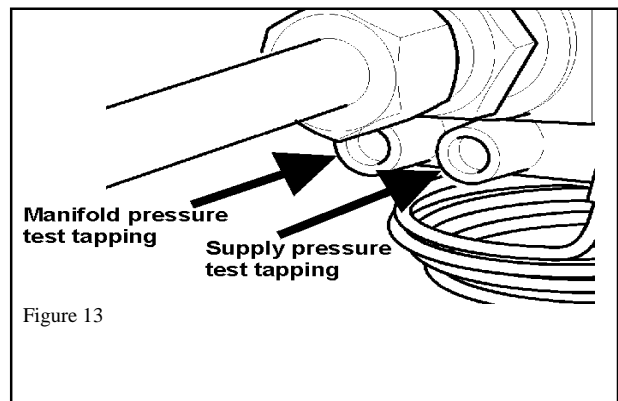

Figure 13
15. Turn on gas supply and check for leaks using soap solution. The minimum and maximum gas supply pressure are 5" and 10.5" w.c. and can be verified using the inlet supply pressure test tapping. See figure 13.
16. Using a small straight blade screwdriver, back off the plug screw within the manifold pressure test tapping. Fit a manometer to the manifold pressure test tapping. See figure 13.